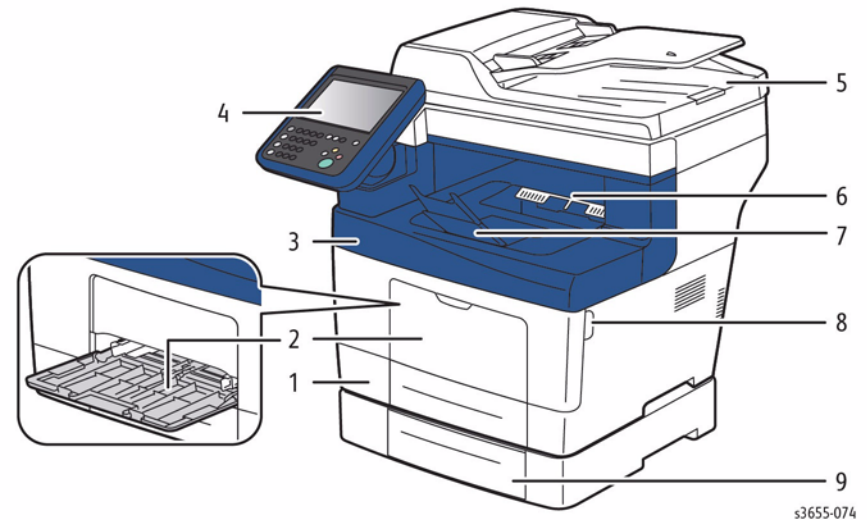

Figure 1 Front View
The WorkCentre 3655 in either 4in1 (S) or 3in1 (X) configurations combine a monochrome laser print engine with a scanner and Duplex Automatic Document Feeder (DADF), Tray 1. The Output Tray holds 250 20lb. sheets facedown. WorkCentre 3655 options add media capacity, wireless connectivity, and functionality. Configurations of up to three additional 550-Sheet Feeders are supported. Figure 1 illustrates components accessible from the front.